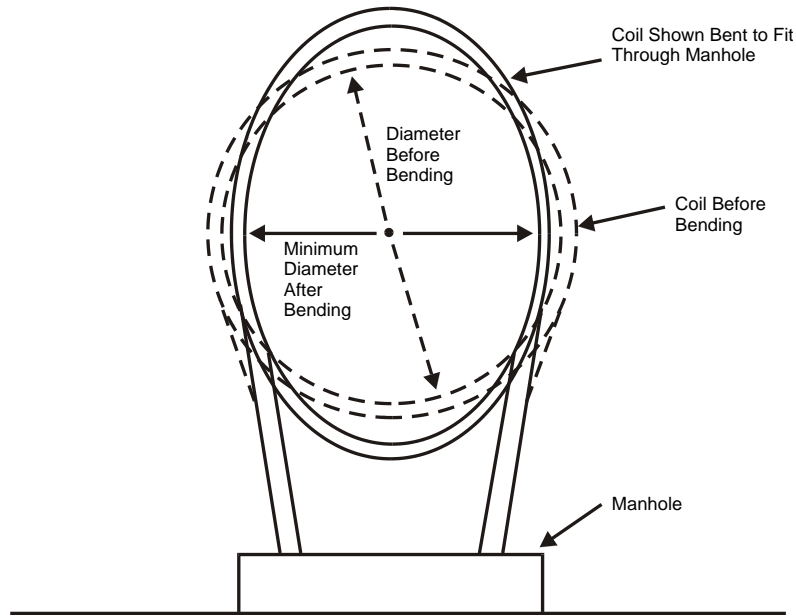

Figure 1 – Temporary bending of cable storage-coils while passing the coils into a manhole.
The minimum bend diameters³ for OFS cables are defined for both dynamic and static conditions. The dynamic condition applies during installation when a cable may be exposed to the MRCL, e.g., while pulling the cable around a sheave or capstan. The static condition applies to a cable that is exposed to less than 30% of the MRCL (< 180 lb). An example of this condition is an installed cable that is racked through a manhole or on an equipment frame. Minimum coil diameters are also specified for long-term storage of slack cable. In some cases temporary bending of cable storage-coils into smaller diameters may be necessary to pass cable coils into a manhole (Figure 1); however, the cable should not be bent smaller than that recommended for static conditions under any circumstance. Cable minimum bend diameters are generally expressed as a multiple of the cable outside diameter (OD) and are summarized in Table 1. For information regarding specific dimensions, please visit www.ofsoptics.com to view cable data sheets or contact OFS Customer Service at 1-888-FIBERHELP (1-888-342-3743).